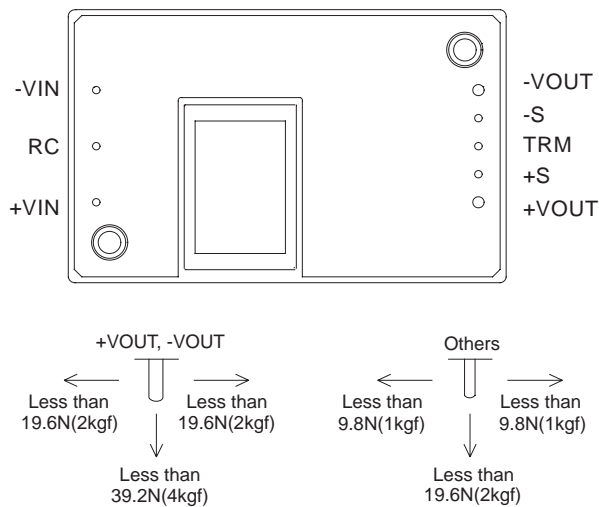

Fig. 6.1 Stress onto Pins
- Applying excessive stress to the input or output pins of the power module may damage internal connections. Avoid applying stress in excess of that shown in Fig. 6.1.